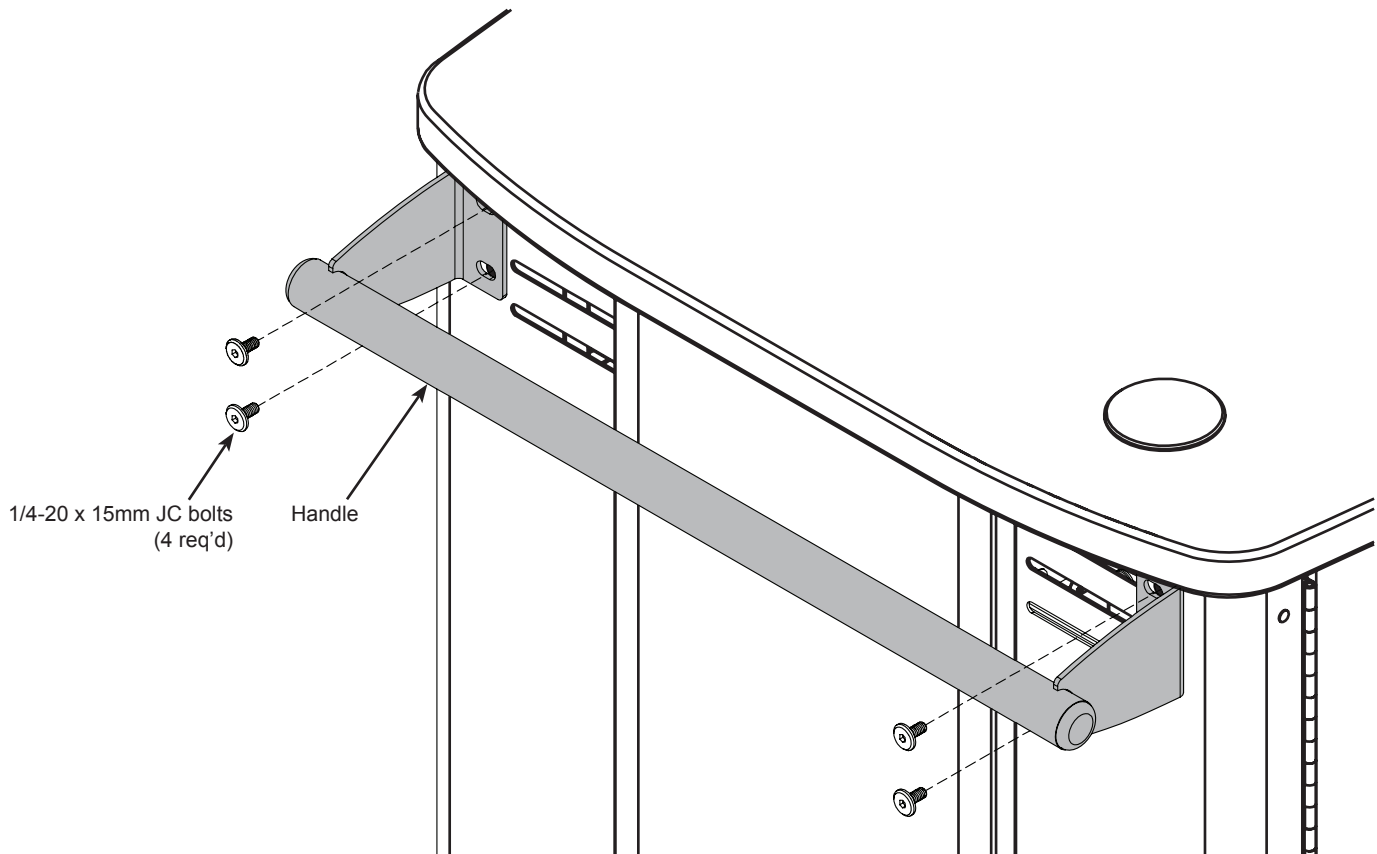

Figure 1
- Attach the handle to the cart with (4) 1/4-20 x 15mm JC bolts and tighten securely. **Figure 1.**